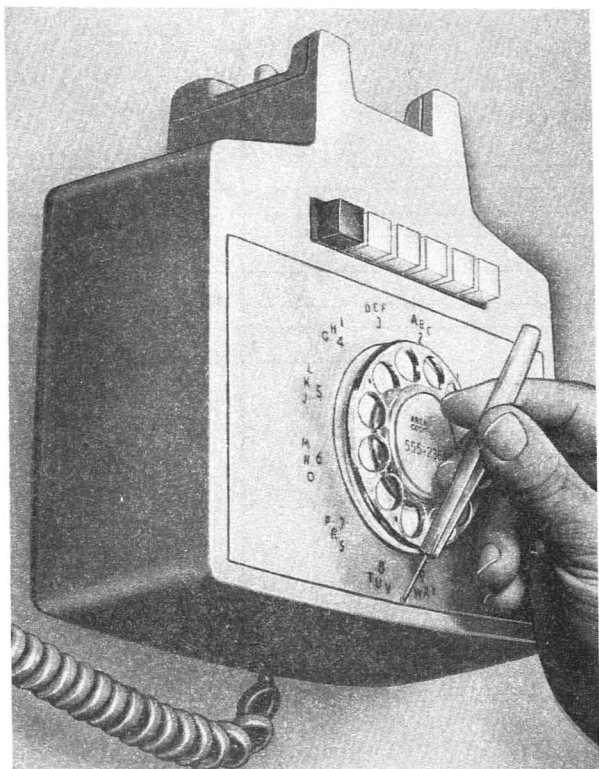

Fig. 7—Installing 853A Faceplate
5.02 When necessary to remove housing, the faceplate must first be removed by using a KS-21107 type releaser (Fig. 7) or equivalent in catch in bottom of faceplate. Housing can then be removed by loosening two captive screws under faceplate area.